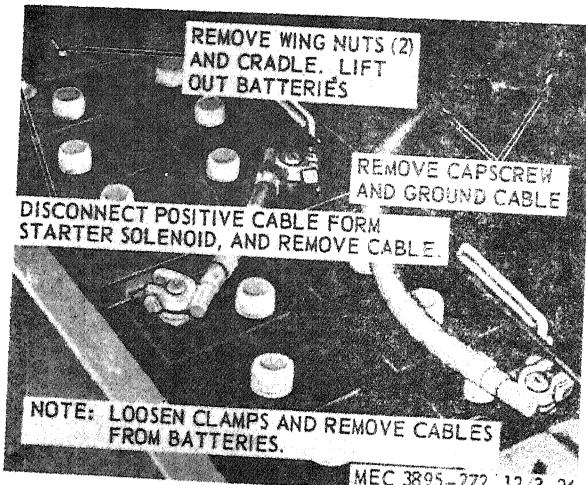

Figure 3-26. Batteries and battery cables, removal and installation.
a. Removal. Remove the batteries and battery cables as instructed on figure 3-26.
- (1) Clean all parts with an approved cleaning solvent.
- (2) Inspect the batteries for cracks, loose or broken terminals, and other damage. Test cells with a suitable tester and check specific gravity. See table 2-1, Chapter 2, Section I. Replace defective batteries.
(3) Inspect cables for fraying, corrosion, and damage. Replace defective cables.
c. Installation. Install the batteries and cables in reverse of the instructions on figure 3-26.
- (1) Remove the batteries (para 3-60).
- (2) Remove the battery frame assembly as instructed on figure 3-26.
- (1) Install the battery frame in reverse of the instructions on figure 3-26.
- (2) Install the batteries (para 3-60).